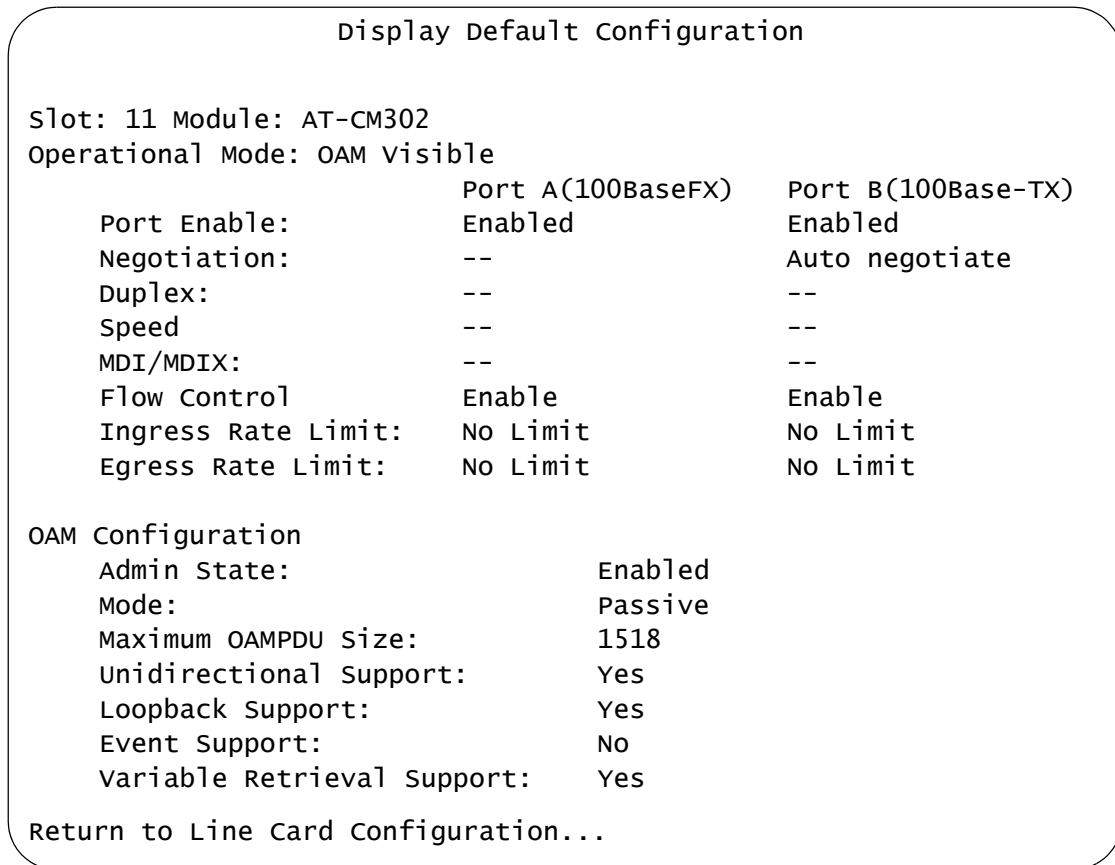

Figure 80. Display Default Configuration Window
- To view the default settings of the line card prior to activating them, select **Display Default Configuration**. An example of the window is shown in Figure 80.